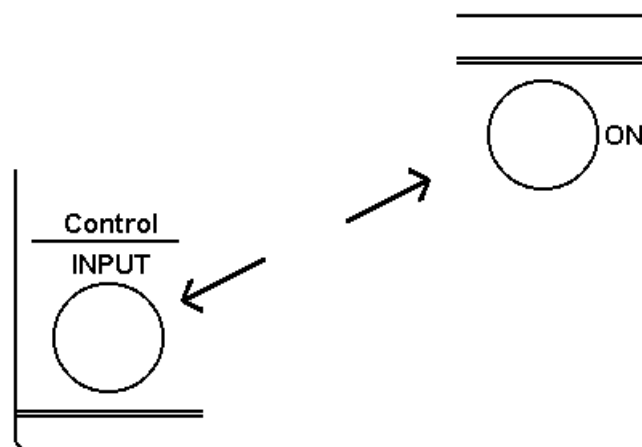
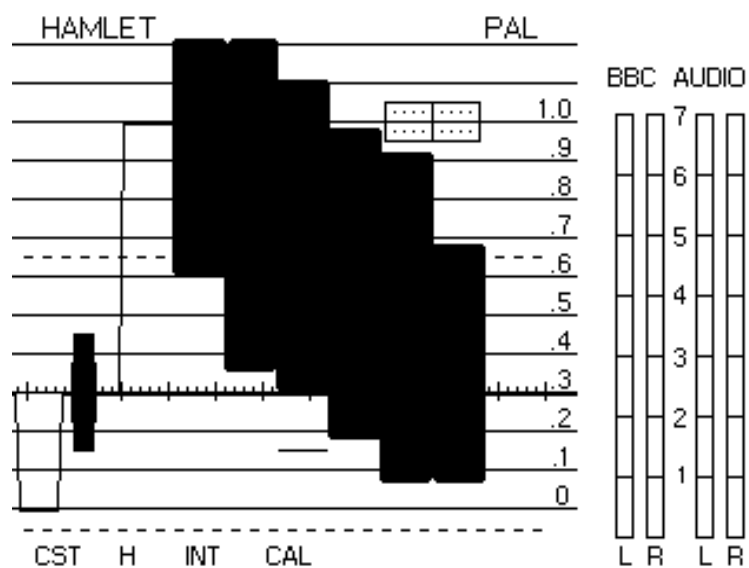

Fig 3
Fig 4
4. Hold down the front panel INPUT button whilst pressing the ON button, see fig 3. This starts the LCDSCOPE in a pre - programmed state, see fig 4. When the unit is subsequently turned on, it will remember the panel settings used previously.